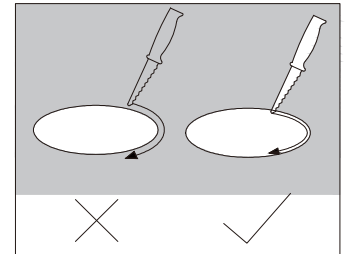

FIG. 2
1. Cut hole in the ceiling for the downlight as planned according to the design and local regulations (Fig. 2).